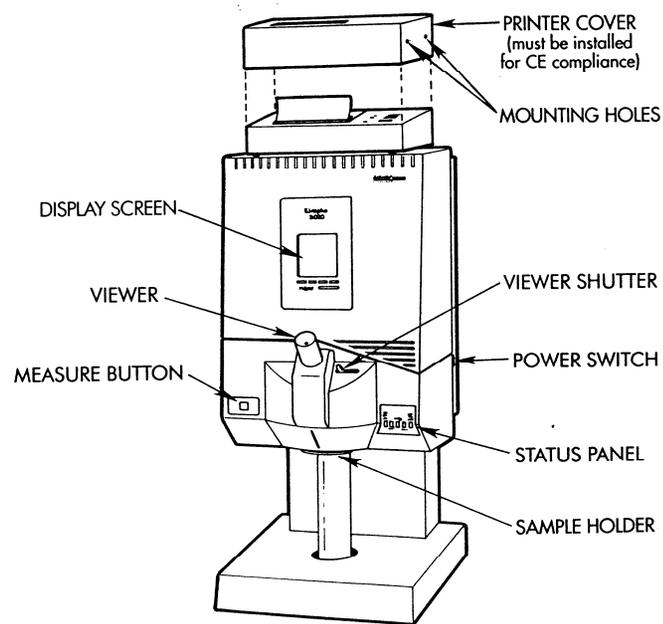

Figure 2
5. Install the printer cover as shown in *Figure 2*, and attach with the four (4) screws.